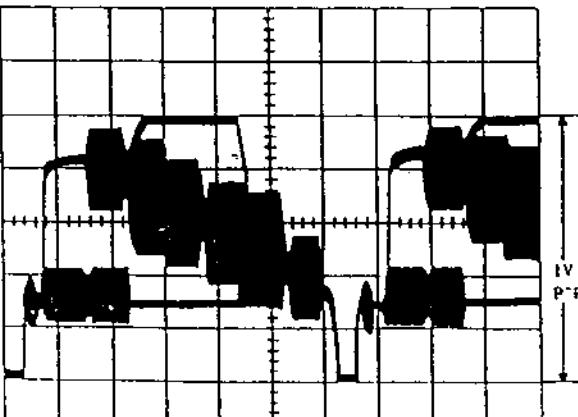

Fig. 18
- (1) Connect the oscilloscope to TP4201.
- (2) Adjust VR4003 so that the signal becomes  $1.0 \pm 0.05\text{V}$  as shown in Fig. 18.